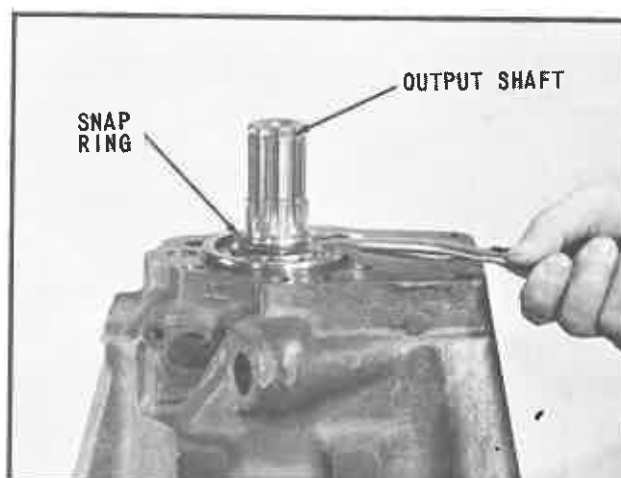

Fig. 19 Installing Snap Ring on Output Shaft
13. If necessary to disassemble forward and reverse section of transmission, remove the snap ring, behind bearing, from output shaft assembly, (Fig. 19).
8. Install the snap ring behind bearing and into the exposed groove of output shaft (Fig. 19).